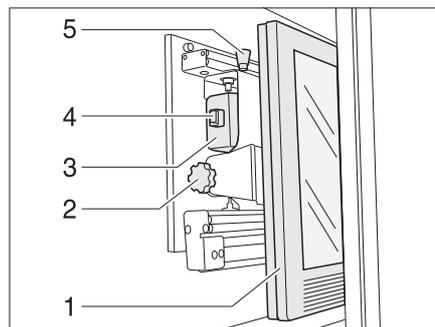

Fig. 61 TV cabinet
- Press the release knob (Fig. 61,5) and pull the holder for the flat screen forward as far as possible by the handle (Fig. 61,4).
- Pull the release knob (Fig. 61,1) and swivel the flat screen (Fig. 61,2) to the desired position.
- Loosen the knurled screw (Fig. 61,3).